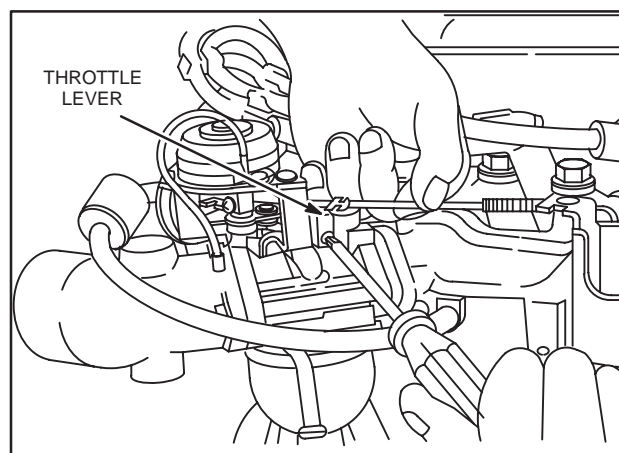

Fig. 57 – Adjusting Idle Speed
1. With control lever on equipment in SLOW position, hold throttle lever against idle speed screw and adjust idle speed to 1200 RPM, Fig. 57.